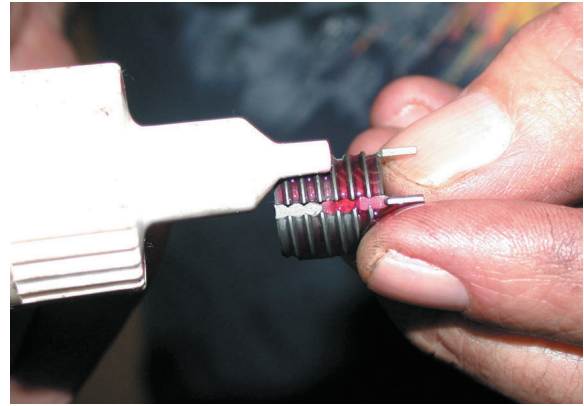

FIGURE 3-31 Put some thread-locking compound on the insert.
3. After putting thread locking compound on the insert, use the mandrel to screw the insert into the tapped hole until it is slightly below the surface. ● **SEE FIGURE 3-31.** The keys act as a depth stop and prevent the insert from turning.